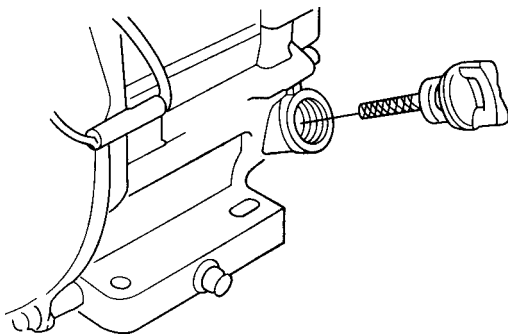

Figure 8. Engine Oil Dipstick (Removal)
2. Remove the filler dipstick from the engine oil filler hole (Figure 8) and wipe clean.